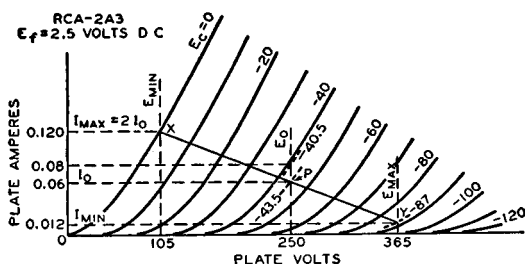

Fig. 21
Calculation of the **power output of a triode** used as a class A amplifier with either an output transformer or a choke having low dc resistance can be made without serious error from the plate family of curves by assuming a resistance load. The proper plate current, grid bias, optimum load resistance, and per-cent second-harmonic distortion can also be determined. The calculations are made graphically and are illustrated in Fig. 21 for given conditions. The procedure is as follows: (1) Locate the zero-signal bias point P by determining the zero-signal bias  $E_{c0}$  from the formula:
**Example:** Determine the load resistance, power output, and distortion of a triode having an amplification factor of 4.2, a plate-dissipation rating of 15 watts, and plate characteristics curves as shown in Fig. 21. The tube is to be operated at 250 volts on the plate.